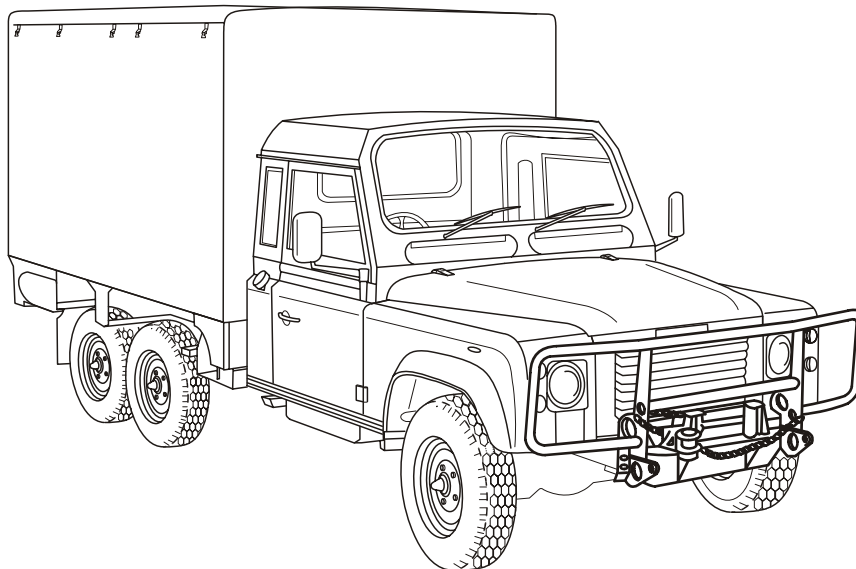

Figure 1 Truck, Air Defence, Land Rover 6 X 6, FFR, W/Winch, Target Sensor Vehicle (TSV)
1. This EMEI contains procedures for removing, dismantling, repairing, assembling and installing various components of the Truck, Air Defence, Land Rover 6 X 6, FFR, W/Winch, Target Sensor Vehicle (TSV) shown in Figure 1. Where applicable, instructions for the adjustment, lubrication and minor servicing of these items are included. This EMEI should be read in conjunction with EMEI Vehicle G 203.